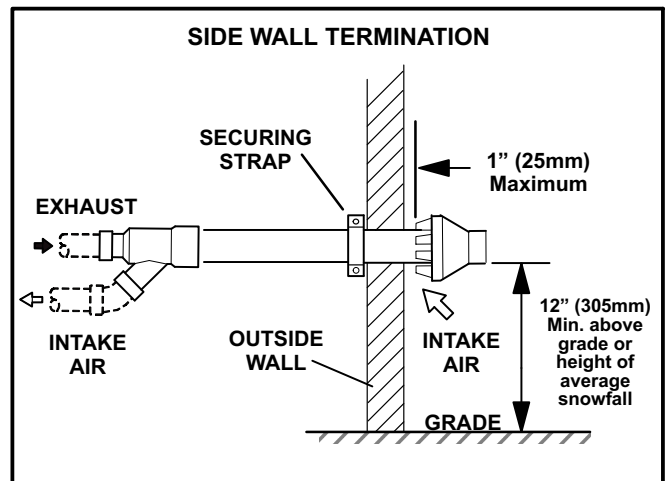

FIGURE 5
- 4 - Run 4-inch (102mm) pipe through the wall opening. Use a sheet metal strap to secure the termination to the structure as shown in figure 5.